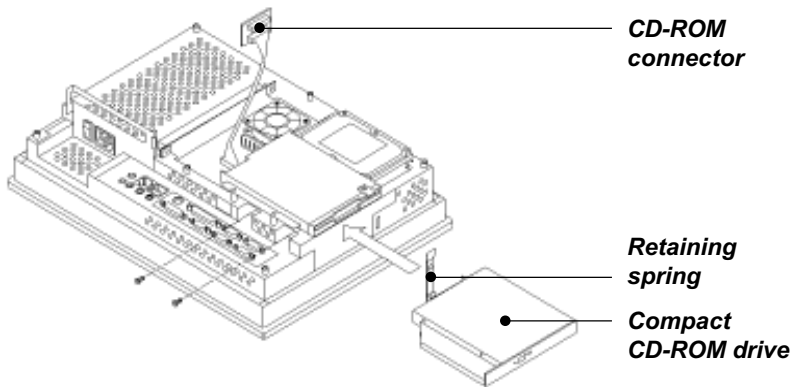

Figure 4-6: Installing the CD-ROM drive
3. Slide the slim CD-ROM drive into the CD-ROM slot. (See Fig. 4-6.)